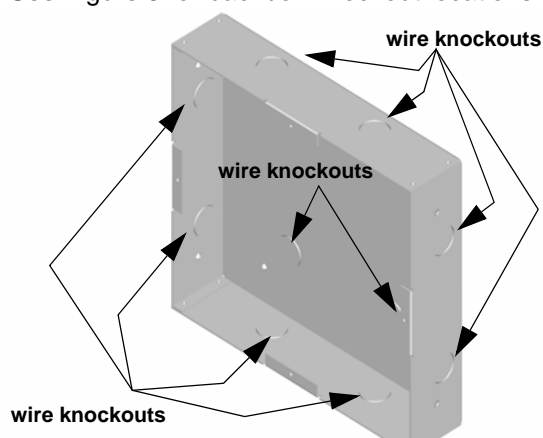

Figure 3: Backbox Knockout Locations
2. Remove knockout holes as needed for wires. See Figure 3 for backbox knockout locations
1. Remove the desired knockout. See Figure 3.